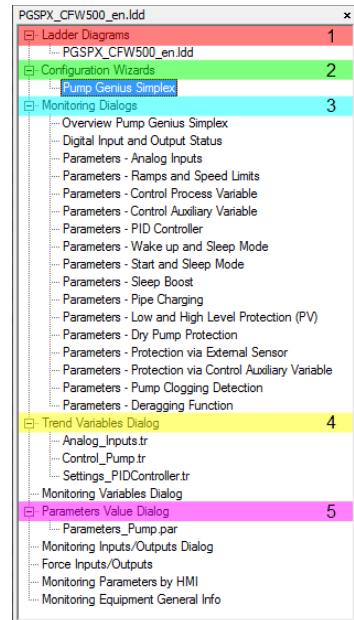

Figure 6.1 – Project Tree
Using WLP programming software can implement or change ladder application of Pump Genius application, configure the parameters through the Configuration Wizards (2), monitor parameters and variables through the Monitoring Dialogs (3), monitor variables through Trend Variables Dialogs (4), and upload/download drive parameters CFW500 through the parameter Values Dialogues (5). The figure 6.1 presents the project tree where the functions mentioned before.